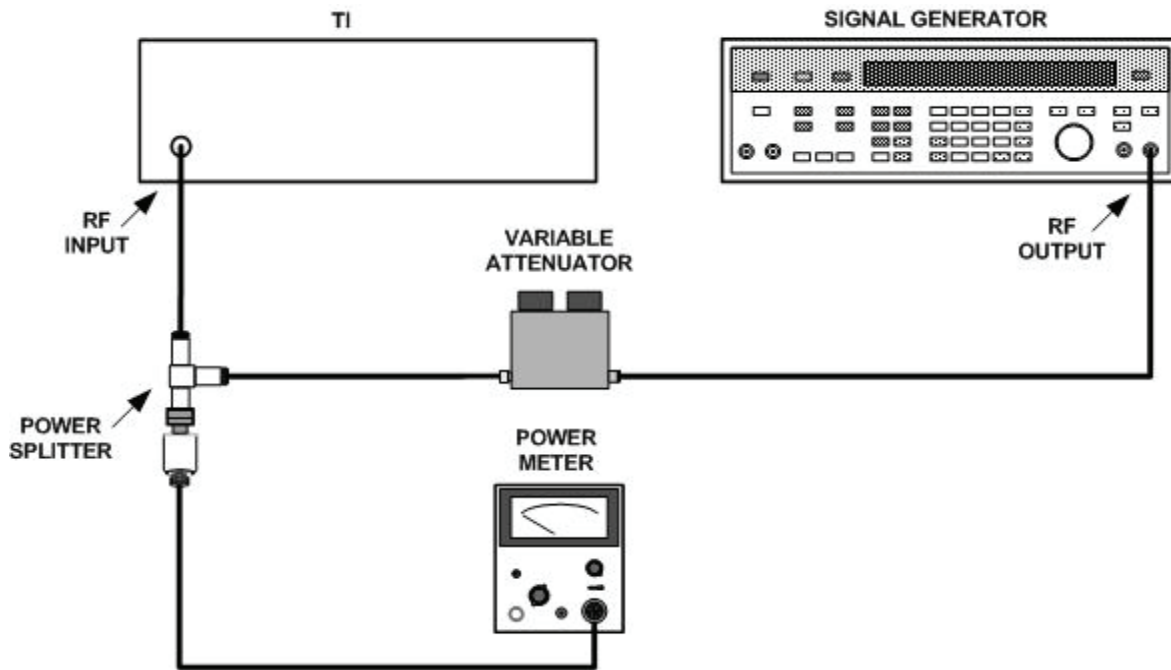

Figure 3. Input power and sensitivity - - equipment setup.
(1) Connect equipment as shown in figure 3.